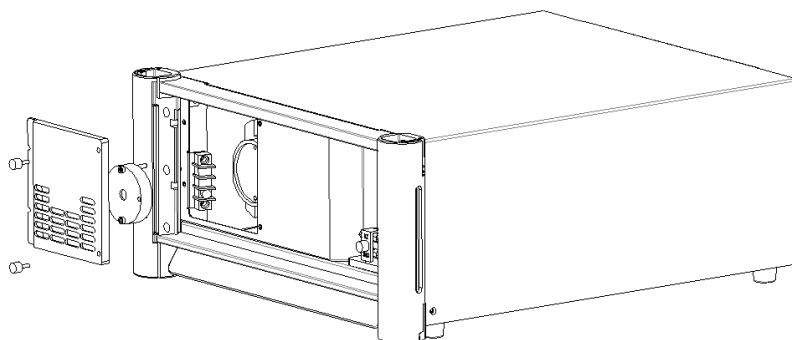

Fig. 5-2 Remove the Lamp Cap
- 2) Remove the inner lamp cap, as shown in Fig. 5-2.